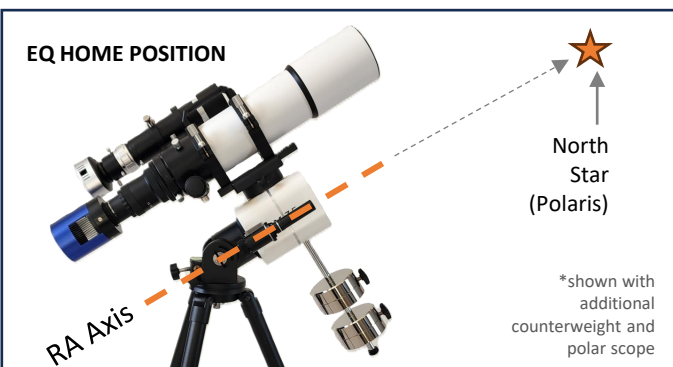

Fig. 2.32
*If using an external, user-supplied power bank, ensure it features Power Delivery (PD) to supply the power required for telescope operation.*
- 1. Set Home Position:** Place the mount into the EQ home position and re-lock both axes. See the below section and Fig. 2.32.